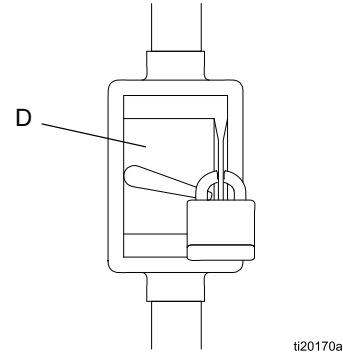

FIG. 6 Locked out disconnect example
1. Ensure that the electrical disconnect (D) is shut off and locked out. See FIG. 6.
2. Remove the Ethernet Cover (108) and NPT Plug (109).